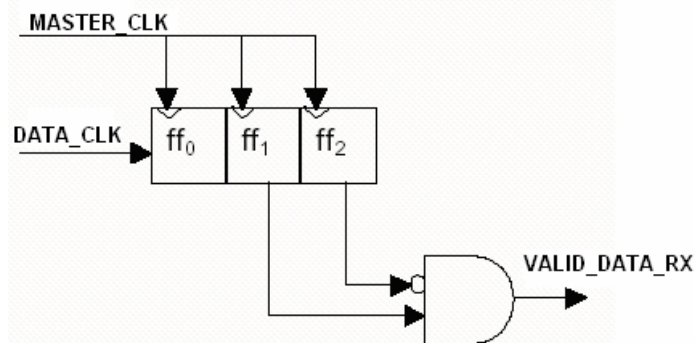

Figure 3
- *PULSE_GEN*: this module generates a pulse at the rising edge ($VALID_DATA_RX$, Fig. 3) and at the falling edge ($VALID_DATA_TX$) of $DATA_CLK$. These signals are then used as enables by the other modules, for the receiving and for the transmitting cycle respectively. Also the $DATA_IN$ signal is synchronized with $MASTER_CLK$ by using two D-type positive edge-triggered Flip-Flops. For the pulse generating, 3 flip-flops are used, to avoid metastability effects.